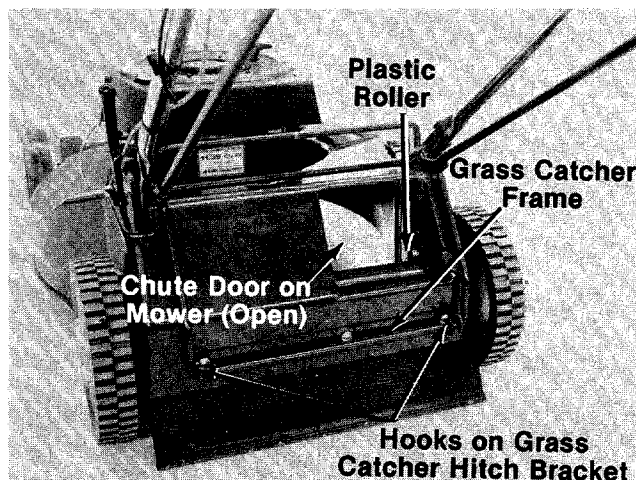

FIGURE 16.
1. Attach the grass catcher frame to grass catcher hitch bracket on rear of the mower by hooking grass catcher into hooks on grass catcher hitch bracket. See figure 16.
2. Lift the rear of grass catcher up. The roller on the grass catcher will push the chute door on the mower open. See figure 16.
Figure 16 is shown with the chute door open for photo clarity only.